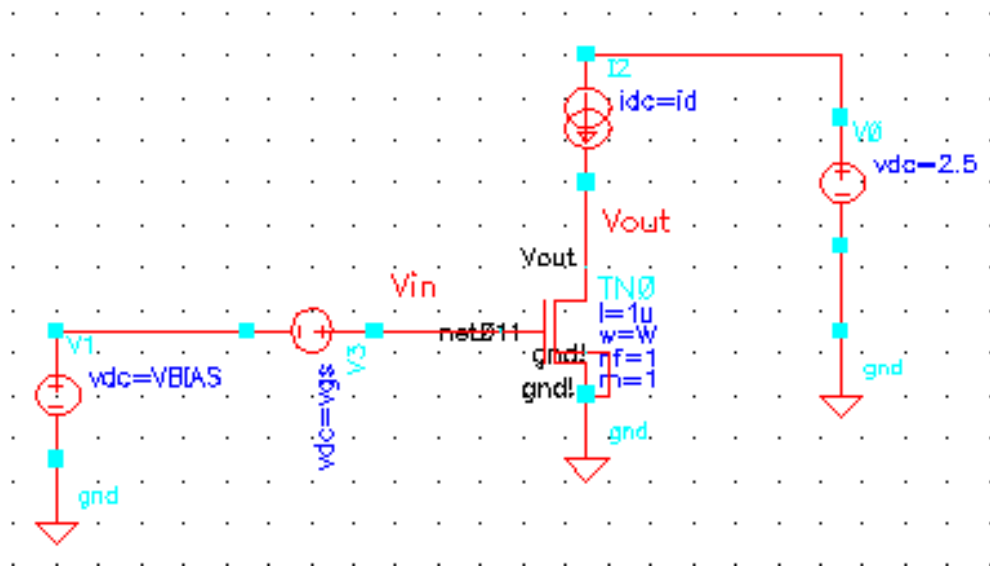

Fig 1. Schematic for Part 1
1) Start Cadence and create a new library for Lab 2 and a new cell for the first circuit. Start by drawing the schematic shown in *Figure 1*. There are two DC sources at the input of the amplifier. One is to bias the circuit to the desired operating point. You will choose the value of V_{BIAS} . The other DC source will be used as the small signal input to the transistor. We will sweep the voltage of this source, v_{gs} . The load for part 1 will be an ideal current source. This can be found in the *analogLib* as cell *idc*. Also, names have been given to the nodes V_{in} and V_{out} , so we can refer to them in this lab.